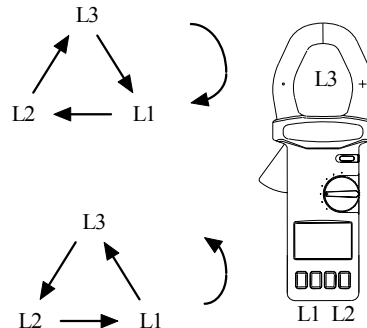

FIGURE 14
5. If current is not detected, only one of the R, S or T phases will be represented on the LCD. See Fig. 14.